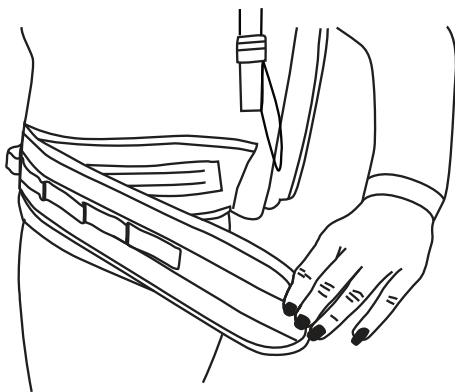

Fig. 11
1. Connect the Flexible Hose (6) and Metal Telescope Tube (7) if desired. Choose the correct accessory as explained on page 10.
2. Loosen the Shoulder Straps (4) on both sides and correctly position onto your shoulders, securing the straps into a comfortable position.
3. Fasten the Waist Band (5) around your waist so that the Backpack Vacuum Cleaner rests comfortably on your hips (Fig .11)